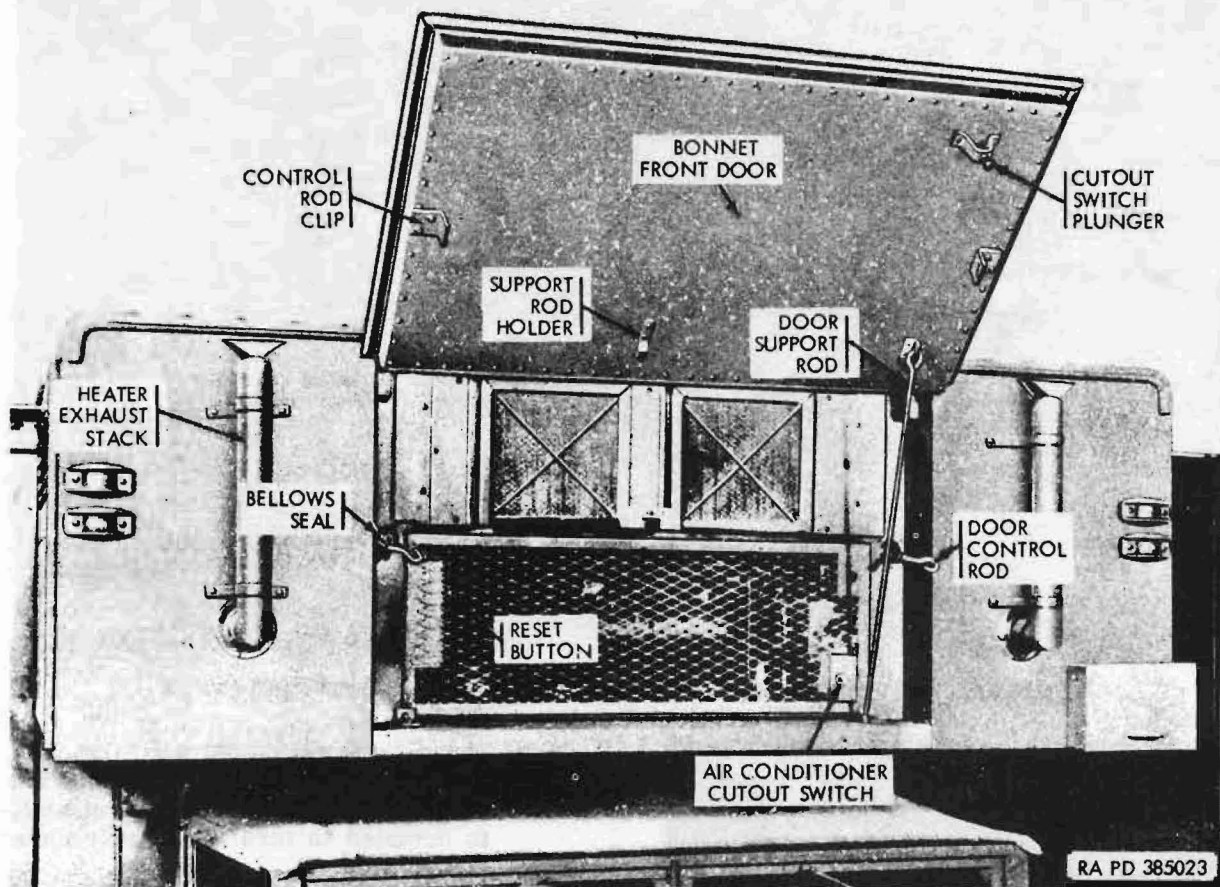

Figure 88. Bonnet door in fully open position
front door automatically actuates the air conditioner cutout switch, shown in figure 88, which controls the operation of the air conditioner warning lamp (fig. 87). The handles are essentially toggle levers attached to linkages which operate the bonnet door and drainage louvers. To open the bonnet front door and drainage louvers, pull both handles simultaneously upward and over to the extent of travel. To close the bonnet door and louvers, pull the handles simultaneously downward to the extent of travel.
- (27) Air conditioner reset button. The air conditioner reset button (fig. 88) is located on the starter box of the compressor motor and is accessible through the mesh guard at the front of the bonnet. It is essentially a combined circuit breaker and switch, and is used to restart the compressor motor